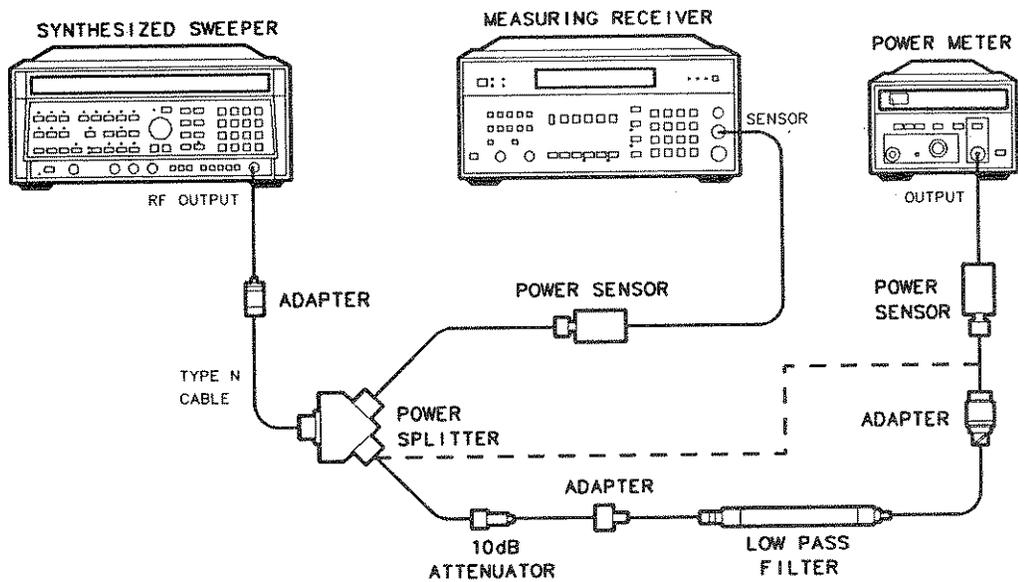

Figure 4-14. LPF Characterization
4. Connect the equipment as shown in Figure 4-14. Connect the HP 8484A directly to the power splitter (bypass the LPF, attenuator and adapters).
7. Connect the LPF, attenuator and adapters as shown in Figure 4-14.